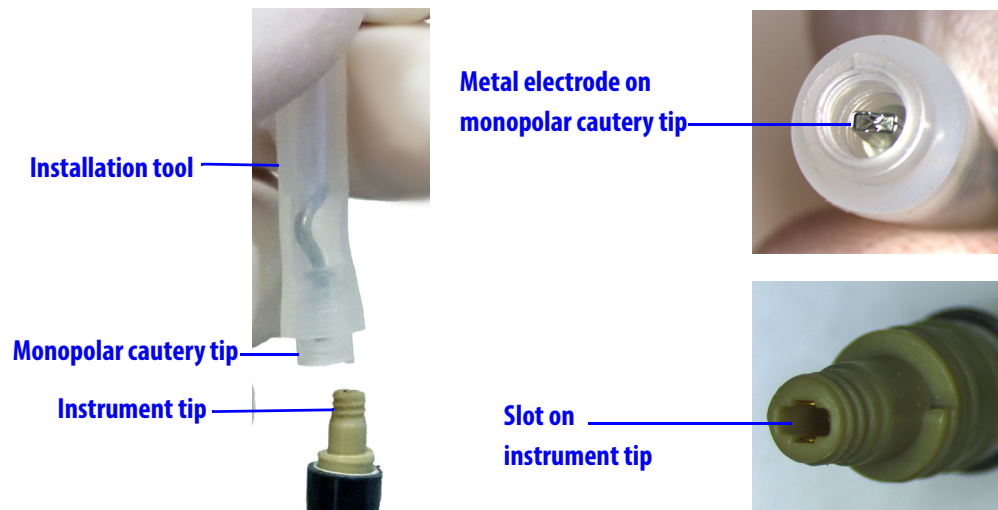

Figure 6.4 Metal electrode on monopolar cautery tip and slot on instrument tip
3. Grasp the monopolar cautery tip installation tool, align and insert the metal electrode on the monopolar cautery tip into the slot on the instrument tip while stabilizing the instrument joints (Figure 6.4).